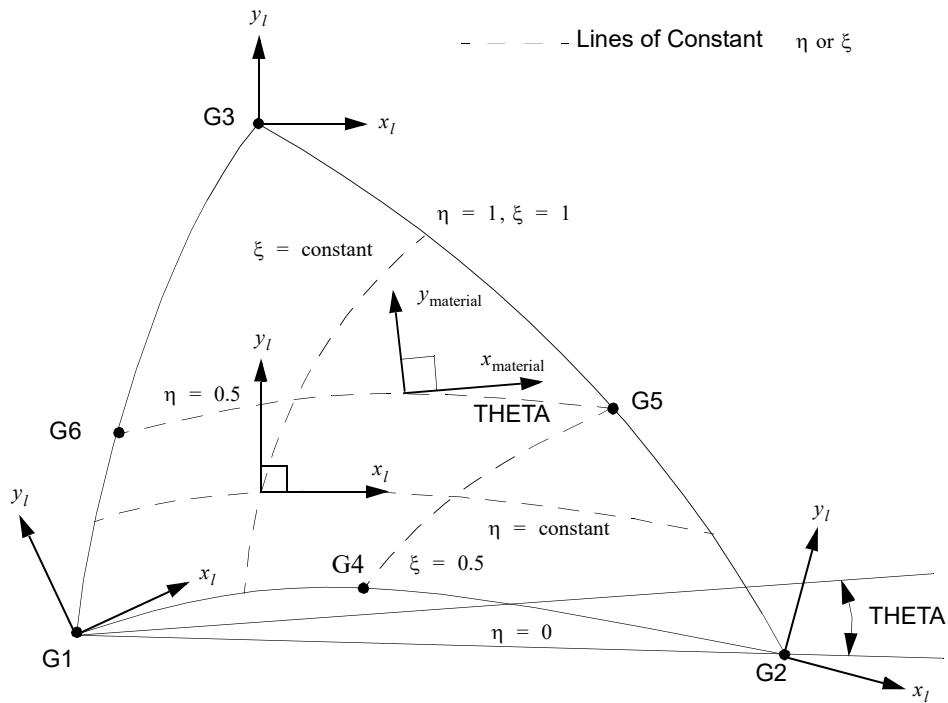

Figure 9-75 CTRIA6 Element Geometry and Coordinate Systems
2. Grid points G1 through G6 must be numbered as shown in Figure 9-75.
8. For a description of the element coordinate system, see Shell Elements \(CTRIA3, CTRIA6, CTRIAR, CQUAD4, CQUAD8, CQUADR\) (p. 123) in the *MSC Nastran Reference Guide*. Stresses and strains are output in the local coordinate system identified by x_l and y_l in Figure 9-75. For hyperelastic elements, stresses and strains are output in the coordinate system defined by the CID field on the PLPLANE entry.